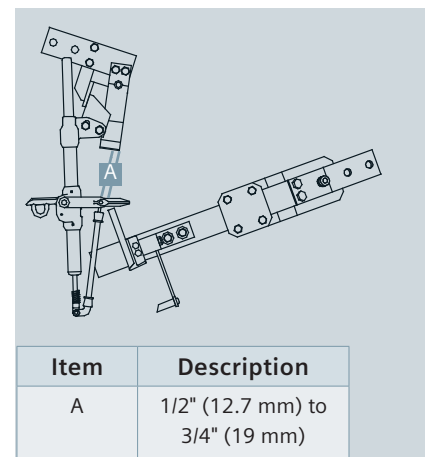

Figure 16: Push bar
b) Continue to close the blade, when the lever is at 90° to the interrupter, the push bar should be at least 1/2" (12.7 mm) from the side of the yoke. At no time during the closing of the switch should the push bar touch the connecting rod or yoke (refer to Figure 16: Push bar).